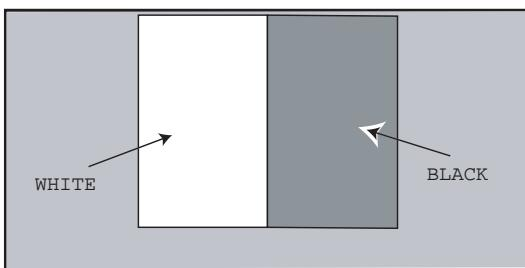

Figure 58. Black/White Pattern
3. Apply a Black/White pattern (See Figure 58)